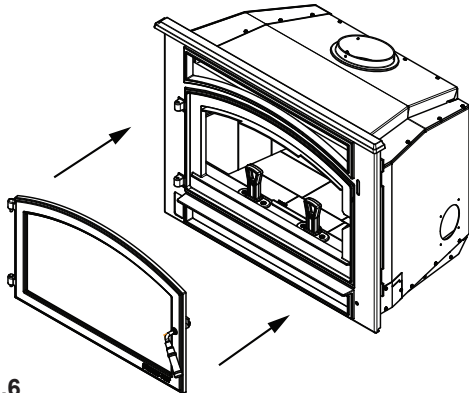

Figure 20.6
6. Reinstall door to face of appliance (Figure 20.6).